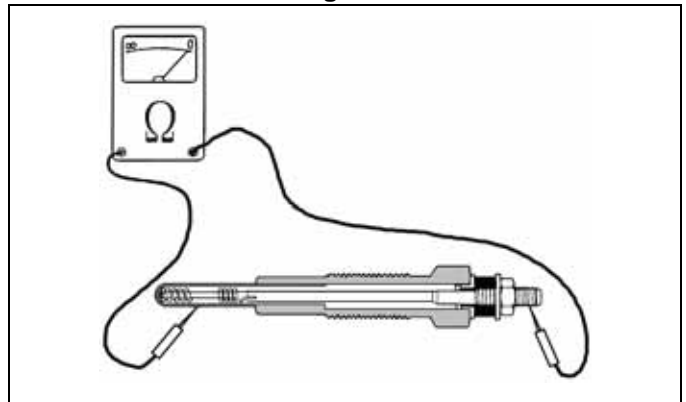

Fig. 5-7
- Using an ohmmeter, touch one test probe to the glow plug electrode. Touch the other test probe to the glow plug body (see page 5-3, Fig. 5-7).